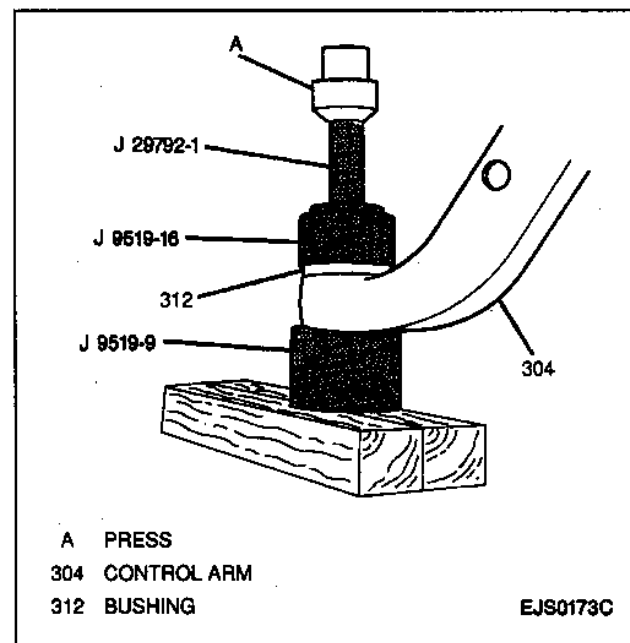

Figure 17—Installing Control Arm Bushing—Long Branch
2. Using a J 29792-1, a J 9519-9 and J 9519-16 and a press, install a new bushing into the long branch of the control arm (Figure 17).